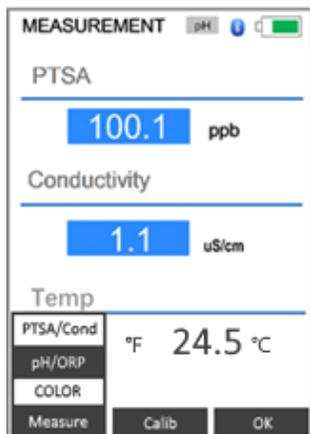

Figure 5. Select pH/ORP measurement
3. Press **Measure** (the < key). A selection menu will be shown as in Figure 5. Press **Measure** again to highlight **pH/ORP**. Press **OK** to start pH and ORP measurement. The pH and ORP values will be updated every two seconds. The values will be displayed in white with a blue background if a stable value is reached (Figure 5).